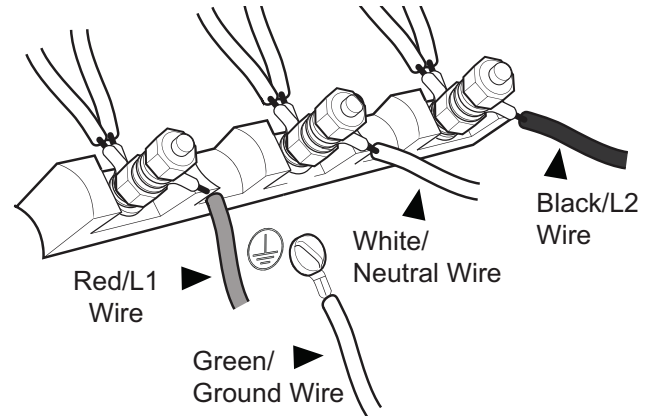

Figure 18: 4-Wire Connection
4. Secure the neutral, grounded wire of the supply circuit, to the center stud of the terminal block with nut (see *Figure 18*).
2. Mount strain relief (not provided with range) into the 1" (25.4 mm) diameter hole in the back panel located below the terminal block (see *Figure 18*). Route wires up through strain relief.